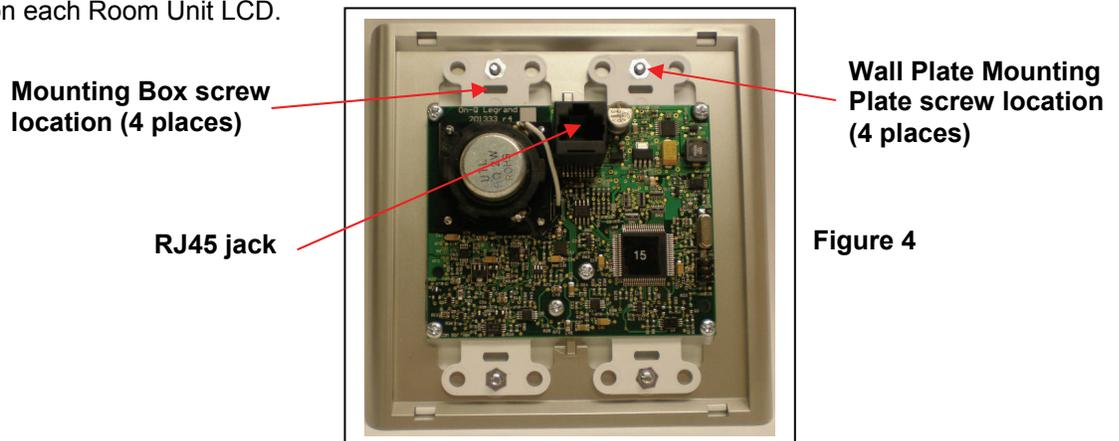

Figure 4
1. As shown in *Figure 4*, label and terminate an RJ45 plug on the Cat 5 cable from the Selective Call Intercom Module and attach it to the RJ45 jack on the rear of the Room Unit. Follow the T568A standards described in *Figure 3*.